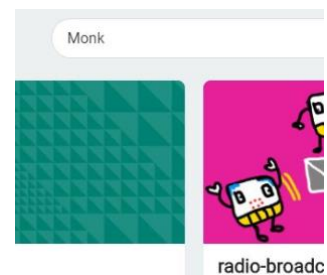
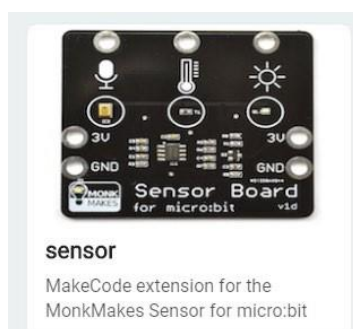

Figure 21
Figure 22
2. Search for 'Monk' in the search bar (Figure 21) and choose the sensor extension that comes up (Figure 22).